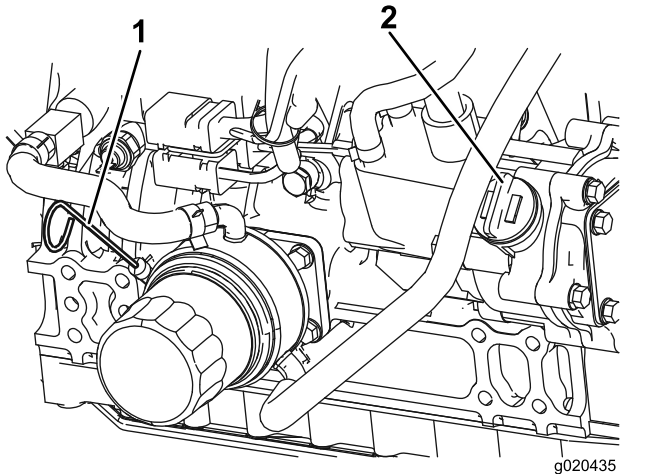

Figure 90
The oil level should be in the safe range (Figure 90).
4. If the oil is below the safe range, remove the fill cap (Figure 90) and add oil until the level reaches the Full mark.